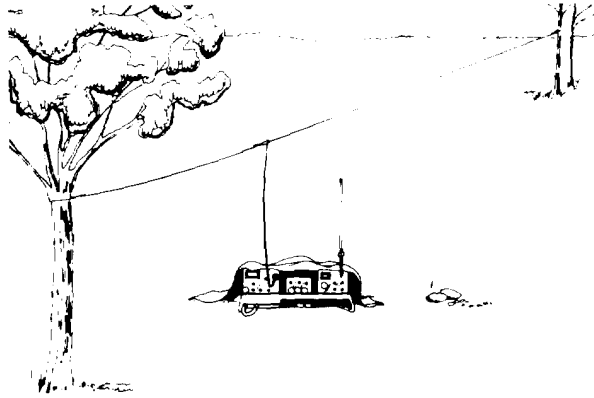

Figure 2-6. Typical Radio Intercept Setup Using Longwire Antenna
(6) Figure 2-6 shows a typical field installation with both longwire and whip antennas.